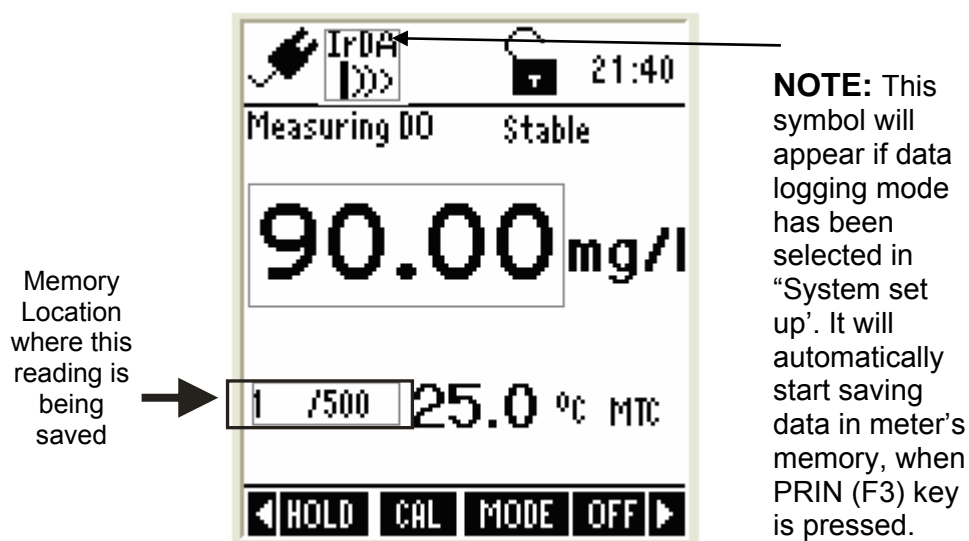

Figure 23: Saving a reading
2. From measurement mode, press **PRIN (F3)** to start saving data automatically in meter's memory. The memory location of the transferred reading is shown in the bottom-left of the screen. (Figure 23)
3. Press **STOR (F3)** key to store the currently displayed reading. The display briefly shows the memory location where this reading is being saved. (Figure 23)